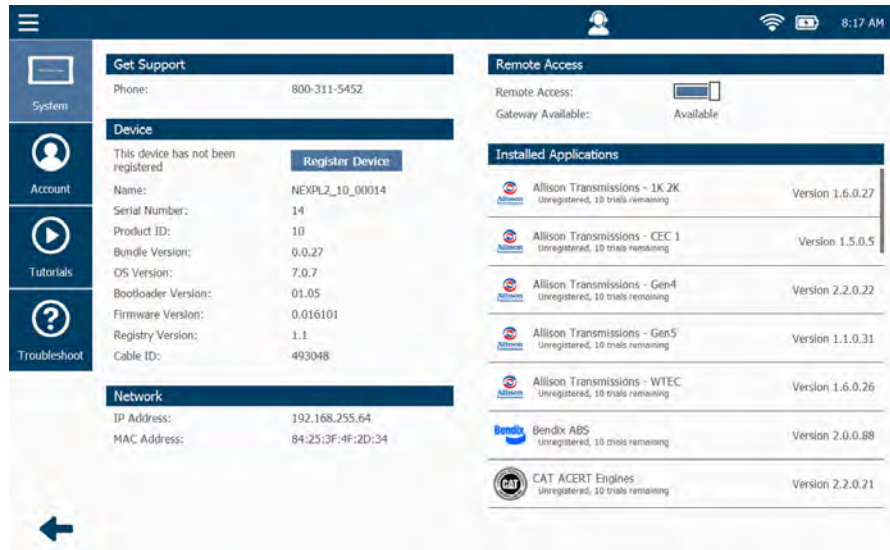

Figure 8.2 Support Menu Showing the Default System Screen
In the upper-left portion of the screen a Support telephone number is displayed (see Figure 8.2).
- 1 Touch the **Register Device** button in the Device portion of the screen (see Figure 8.2).
The **Support Menu** is displayed (Figure 8.2).
The following information is displayed in the Network portion of the screen (see Figure 8.2):
- 1 Touch the **Remote Access** slider located in the upper-right corner of the display (see Figure 8.2).
The Installed Applications portion of the screen displays a list of applications installed on the device (see Figure 8.2). Touch the screen to scroll through the list. A note indicating the registration status of each application is included in the list (for example **Unregistered, 10 trials remaining**).
When you select Account from the Support Menu (Figure 8.2), the Account Login screen is displayed. From here you can access and update your account information (e.g., username, company name, address, etc.).